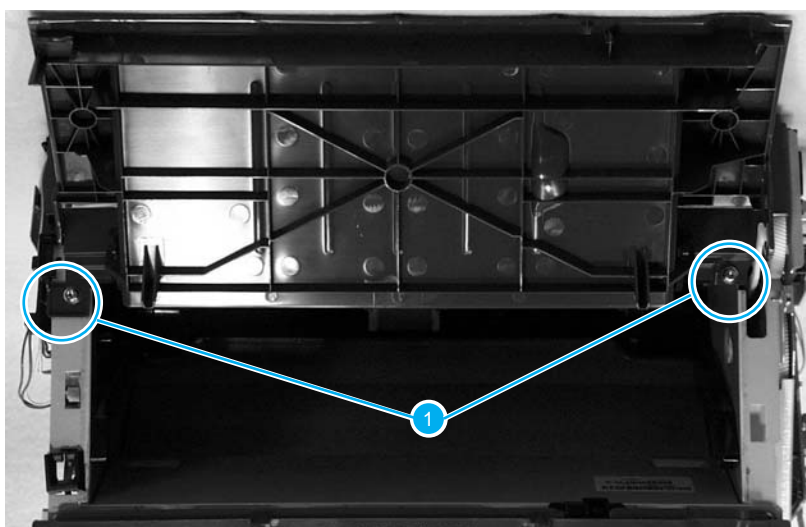

Figure 5-9.
4. Remove two screws from the top of the product (callout 1, figure 5-9).